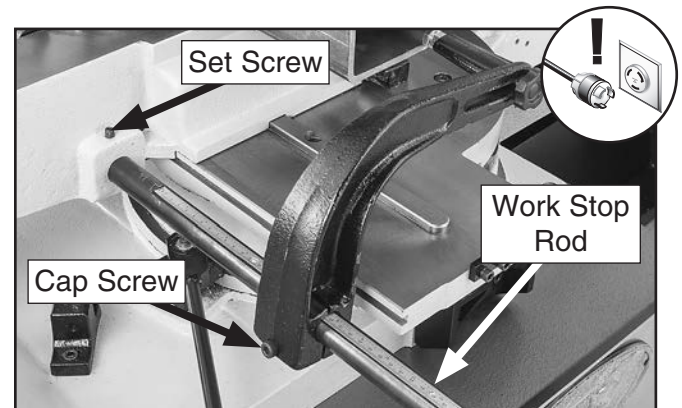
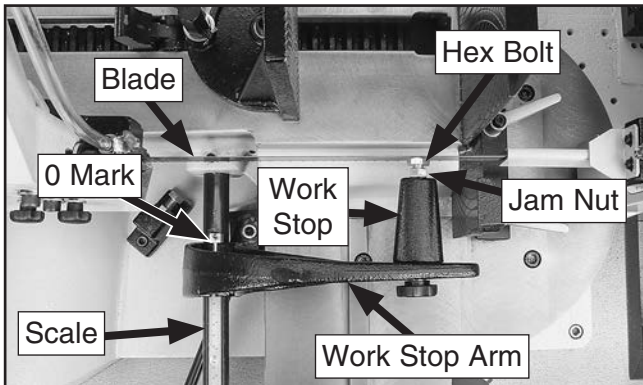

Figure 37. Location of front set screw for setting stop rod.
Figure 39. Top view of work stop rod aligned with "0" on scale and hex bolt touching blade.
3. Loosen set screws shown in **Figures 37–38**.
- Loosen cap screw shown in **Figure 37** on **Page 32**, and align front of work stop arm with "0" mark on stop rod scale, as shown in **Figure 39**.
- Adjust hex bolt on work stop to just touch blade, then tighten jam nut against work stop (see **Figure 39**).